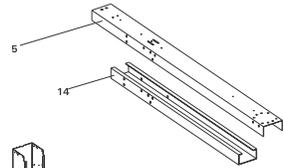

Fig. 11
A) Start by laying out the under channels so that the open sides of each under channel is facing up. Then slide the strap end channel over the top of the under box channels so that they form a tube. Be sure that the holes in both channels are aligned, but do not bolt them together yet. See Fig. 11